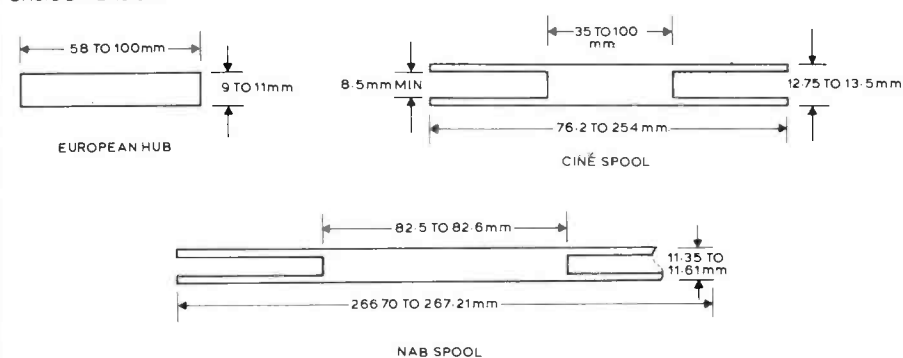

Fig 6 Lipping on left edge
- **Lipping:** (Fig 6) the turning up of one or both edges of the tape, may be associated with poor slitting as shown in Fig 1, or cupping as shown in Fig 2. These are tape manufacturing defects which can be readily seen in new spools of tape.